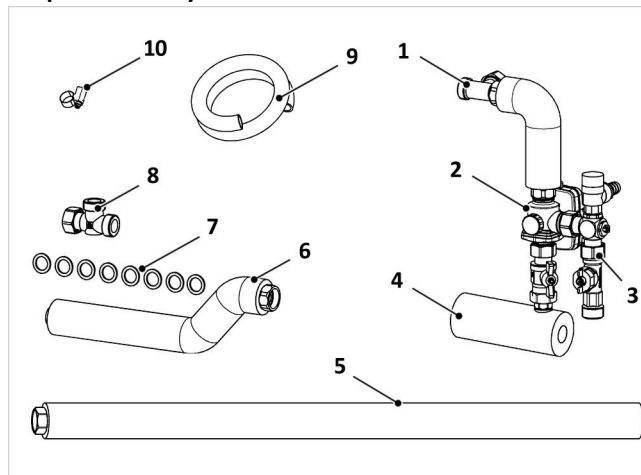
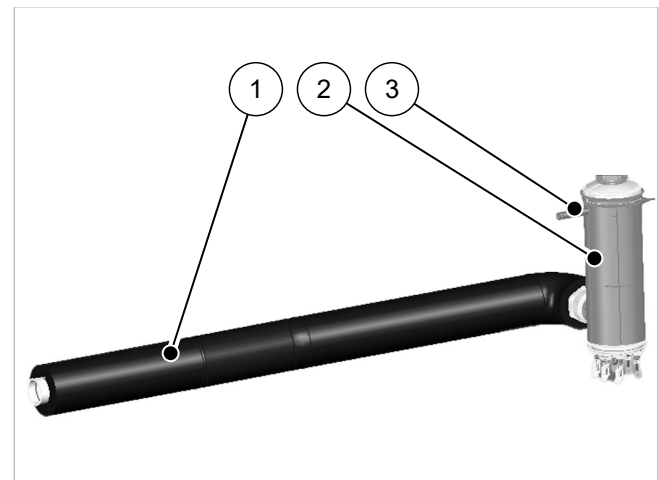

Fig. 2: Assembly pack for LM WP-VSG / WP-SL-VSG 3-W valve
Fig. 7: Heating cartridge with HP flow pipe
→ fig. 2, p. 7.
When the SolvisMax Solo is combined with the SolvisMia or SolvisLea Eco, the supplied heating cartridge must also be integrated into the heating pump flow in the WP-SL-VSG charging module. This "LM WP-SL HPT assembly pack" (→ fig. 7) replaces the "WP-VL connection pipe" here; see → fig. 2 (5).